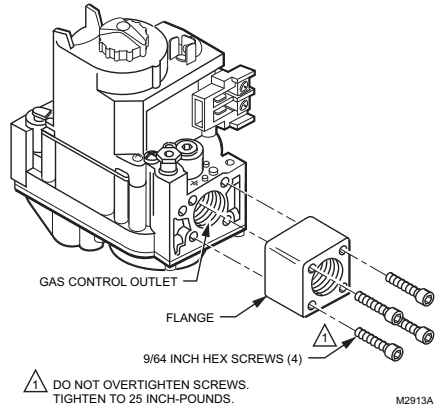

Fig. 2. Fasten flange to valve firmly, but do not overtighten screws.
4. With O-ring facing the valve, align the screw holes on the control with the holes in the flange. Insert and tighten the screws provided with the flange. (See Fig. 2). Tighten the screws to 25 in. pounds (2.82 n·m) of torque to provide a gas-tight seal.